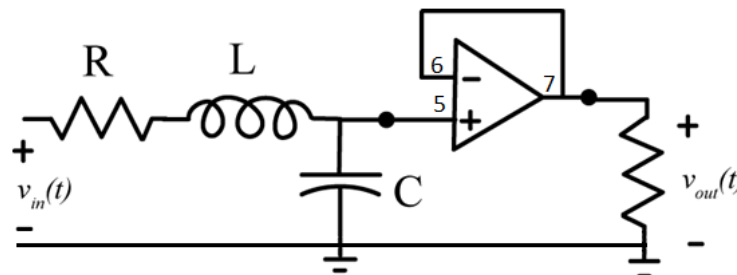

Figure 18: Second order system plant
3. Modify the circuit so that the plant and isolation amplifier now look like Figure 18. The resistor is  $1\ \text{k}\Omega$ , the inductor is  $33\ \text{mH}$  and the capacitor is  $0.01\ \mu\text{F}$  (103).